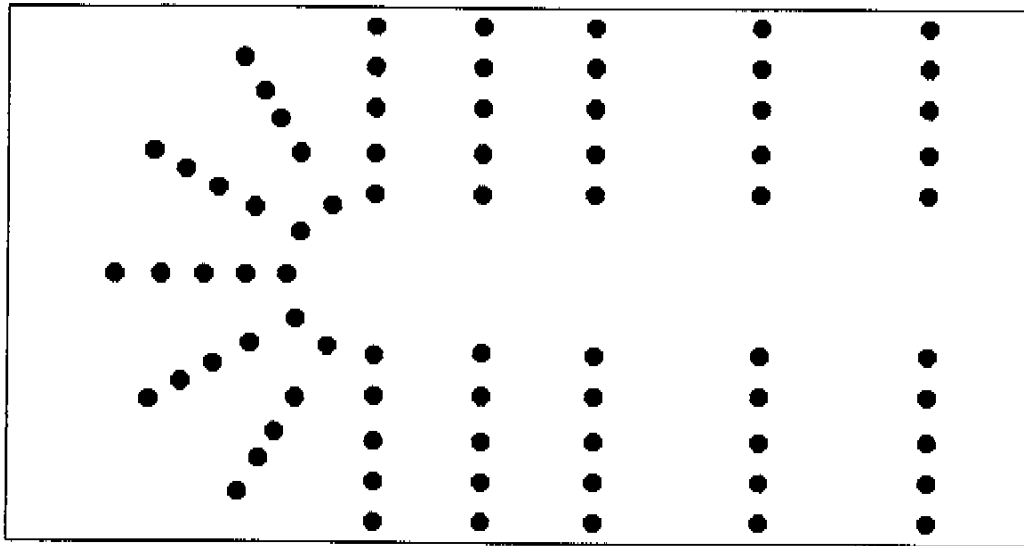

Figure 3.2. *The tit1.xyz Data Points.*
4. The XYZ data points from the file have now been converted into *nodes*. Nodes are points representing locations of known position and elevation. The data in *tut1.xyz* is shown in Figure 3.2.